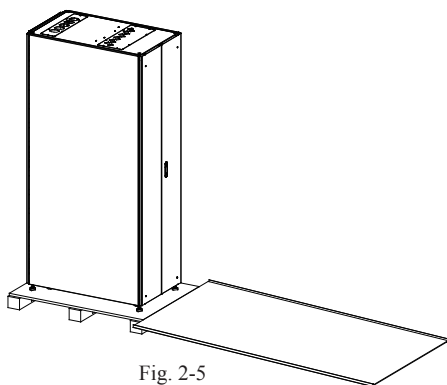

Fig. 2-5
- 5.Atleast 2 people is required to push the cabinet to the ground carefully by slope board(Fig.2-5);